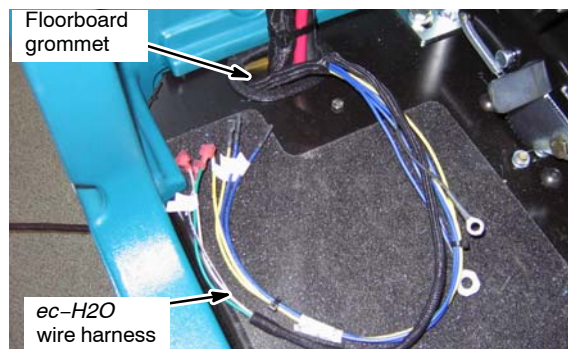

Fig. 3
1. Route the *ec-H2O* wire harness [p/n 1050759] up through the harness hole located in the floorboard as shown (Figure 3).